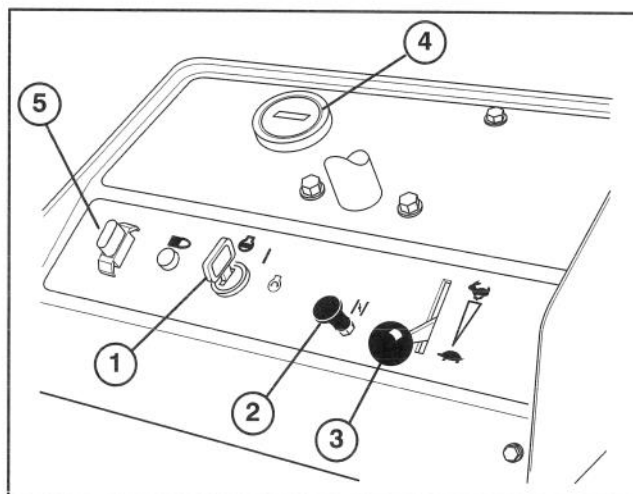

Figure 11
**Ignition Switch** (Fig.11) – The ignition switch, used to start and stop the engine, has three positions: OFF, RUN and START. Rotate key clockwise — START position — to engage starter motor. Release key when engine starts. The key will move automatically to the ON position. To shut engine off, rotate key counterclockwise to OFF position.
**Choke Control** (Fig. 11) – To start a cold engine, close carburetor choke by pulling choke control out to ON position. After engine starts, regulate choke to keep engine running smoothly. As soon as possible, open the choke by pushing it downward to the OFF position. A warm engine requires little or no choking.
**Throttle Control** (Fig. 11) – Lever connects to and operates throttle linkage to carburetor. Control has two positions: SLOW and FAST. Engine speed can be varied between the two settings.
**Hour Meter** (Fig. 11) – Indicates the total hours of machine operation. The Hour Meter starts to function whenever the key switch is rotated to “ON” position.